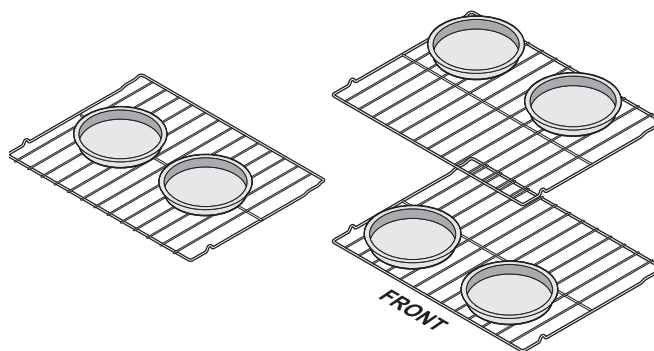

Figure 8: Baking on multiple levels
- When using any single rack, position the rack so that the food is in the center of the oven on rack position 4. Place pans as shown in Figure 8.